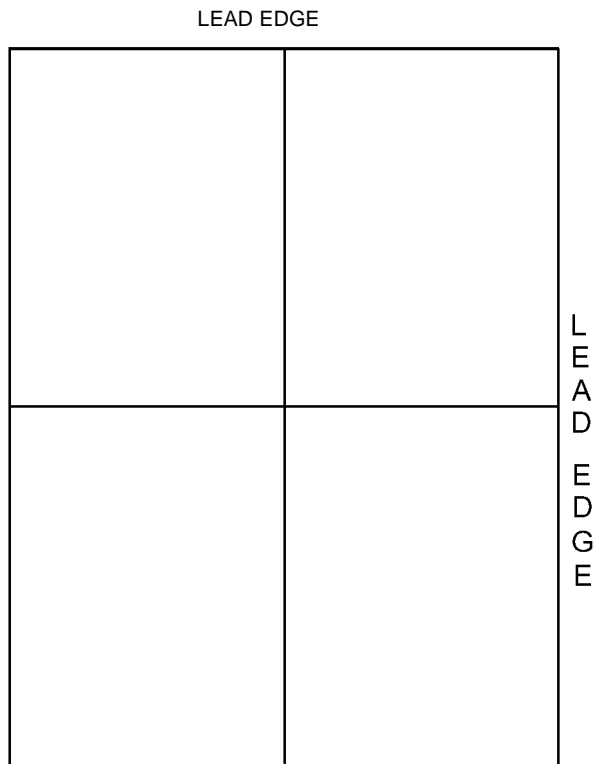

Figure 2 Creating a Test Pattern Original
3. To create a test pattern original, use a plain white sheet of 11x17" paper and fold the sheet precisely in half lengthwise and width wise. Then with a straight edge, draw a straight line in the length wise crease and a straight line in the width wise edge. Write the words "Lead Edge" on the short edge that will be placed on the platen glass registration edge. (Figure 2)